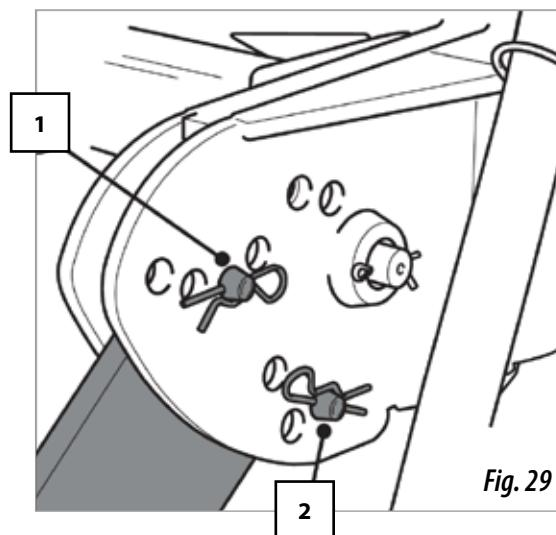

Fig. 29
- a. By using the upper bolt (nº1, fig. 29), the depth of the tine coulters equipment can be adjusted and therefore the pressure on the ground can be controlled.
- b. By using the lower bolt (nº2, fig 29), the roller's penetration into the ground can be controlled and the roller can also be secured ready for transit..